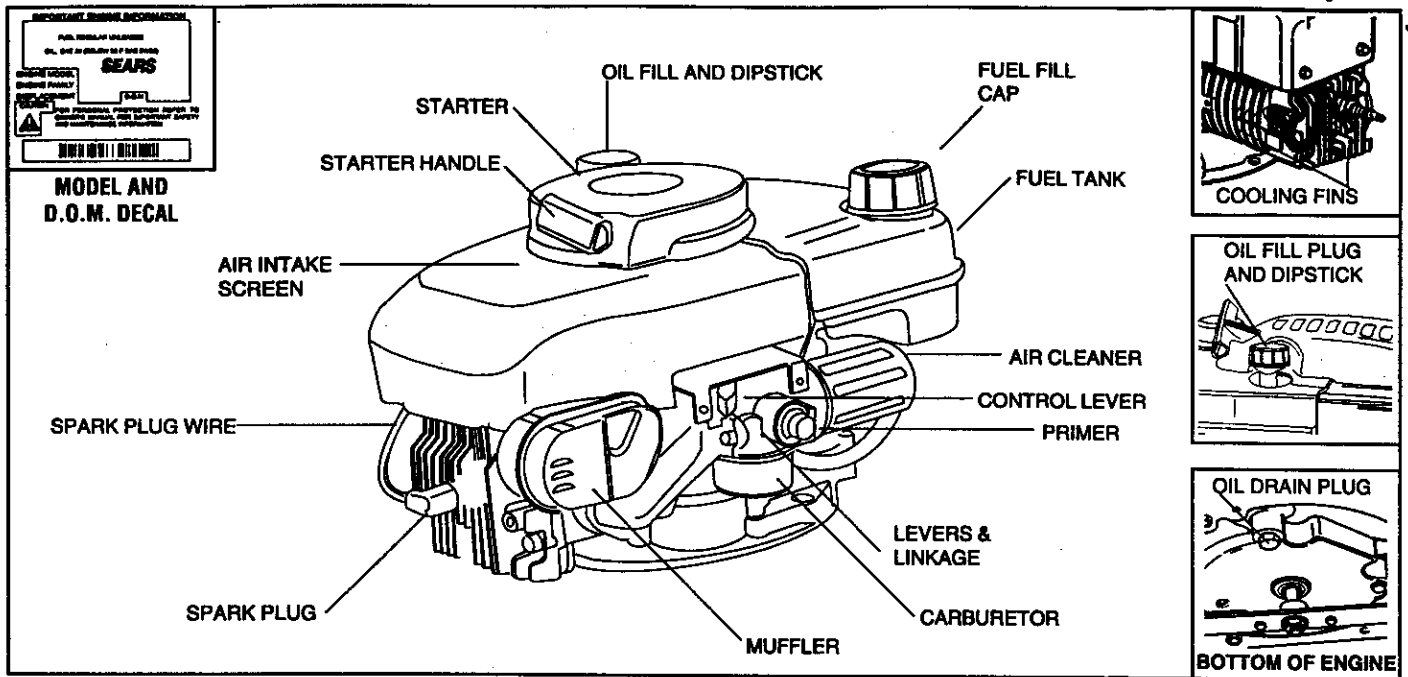

Figure 1
- B. Clean area around oil fill plug (see Figure 1).
⑤ CHECK THE FOLLOWING:
B. Be sure spark plug wire is attached to spark plug (see Figure 1).
① Move engine control (see Figure 1) to HI Position.
② START ENGINE:
ENGINE SPEED: Engine speed is controlled by the engine control (see Figure 1). Engine control should be in HI position for high grass conditions and for most efficient bagging in heavy grass conditions, and in LOW position for light grass, trimming and for fuel economy.